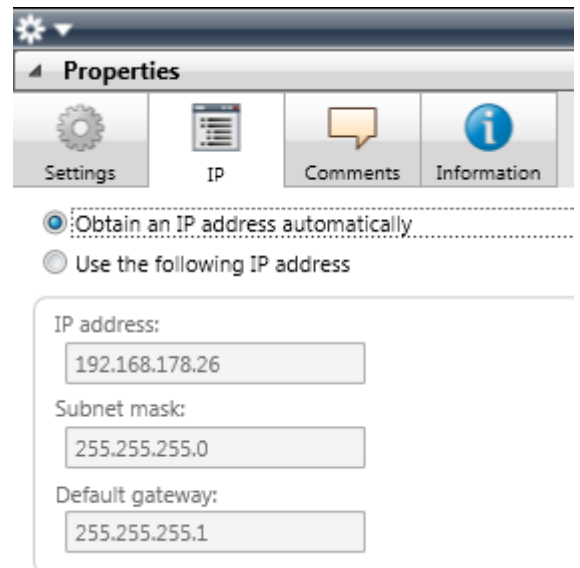

Figure 5: Setting of the IP address data of the device on the "IP" tab in the sidebar of the ETS.
3. Select the *IP* tab as per Figure 5. Then select either